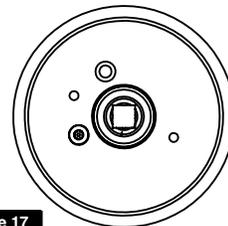

Figure 17
8. Align spindle hole to be square and perpendicular to door edge by hand turning. (Figure 17)